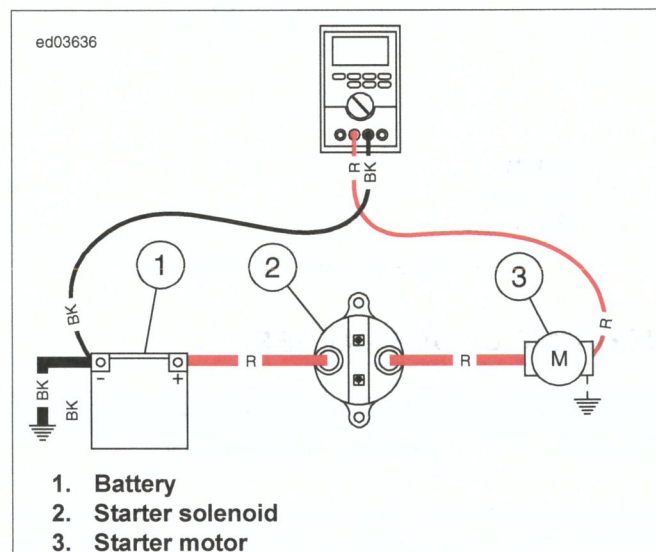

Figure 1-11. Starter Ground Circuit
- See Figure 1-11. Finally move the black meter lead to the negative battery post and the red meter lead to the starter case. Crank the starter.